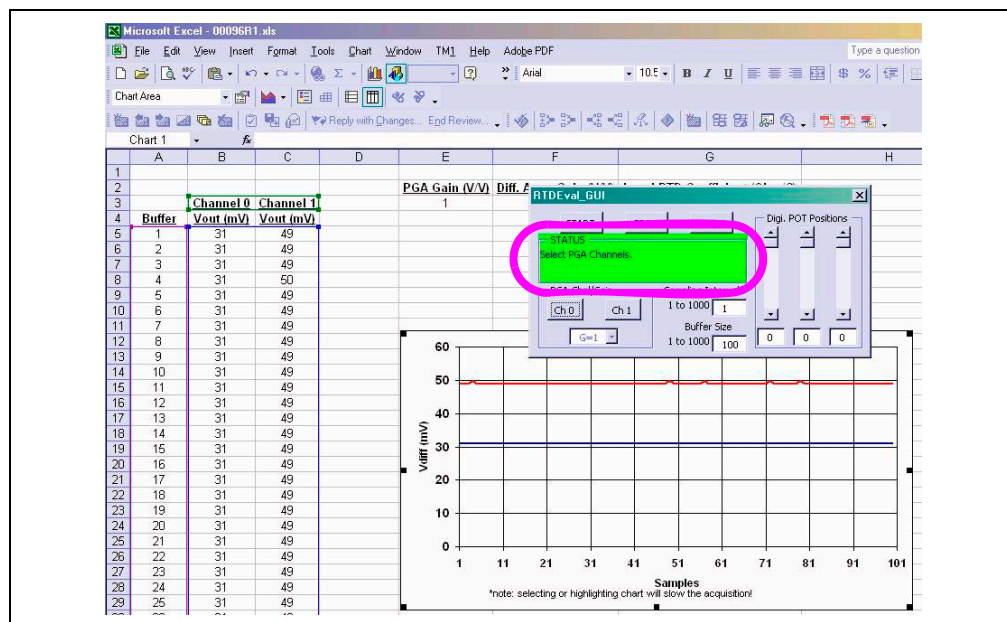

FIGURE 2-3: Microsoft Excel-Based GUI
1. Once the USB connection is secure, open the 00096R1.xls file and select **Enable Macro**. The Excel macro will execute and the status display will indicate hardware identification, as shown in Figure 2-3.